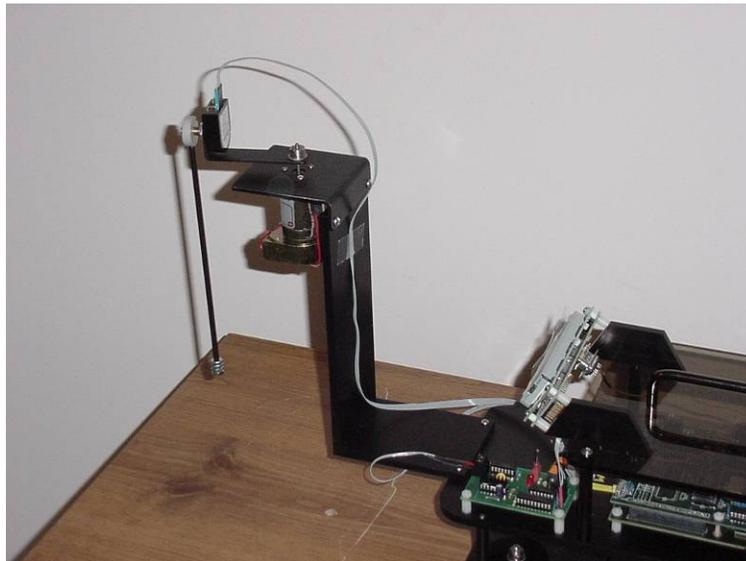

Figure 5-21: Furuta Pendulum Cable Routing
2. Tape the encoder cable to the upright aluminum piece as shown in Figures 5-21 – 5-23. Make sure to arch the cable as in the figure so link one can turn 180 degrees in each direction without being disrupted by the cable. Shape the cable and make sure there are no twists in it.